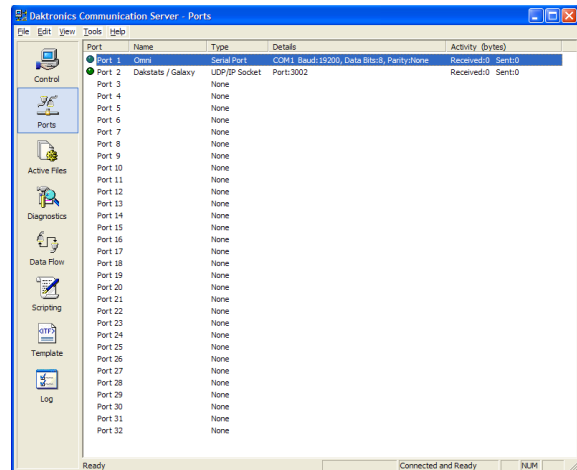

Figure 12: Daktronics Communications Server- Ports
2. In the *Daktronics Communications Server – Ports* window (Figure 12), double-click on an empty port to set up the following two ports: